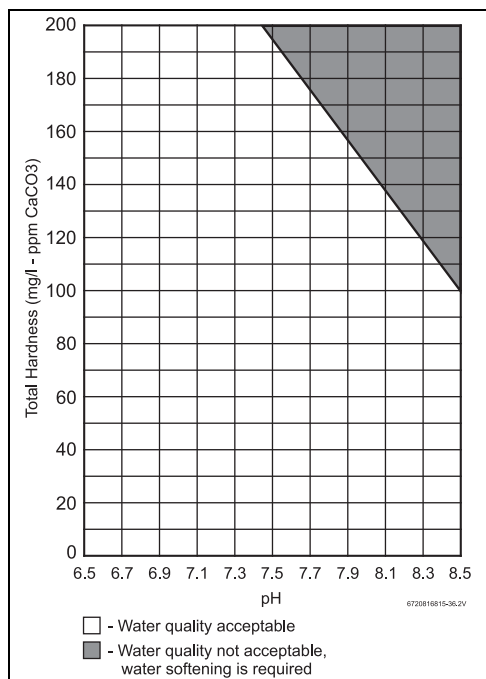

Fig. 26 Water total hardness and pH values
Water quality can have an impact on appliance longevity. Water supplied to the Greentherm T9900 SE/i must be in accordance with table 17 and fig. 26.
For water analysis data call your local water department, or if on a well, have well water analyzed periodically. Heavy scale will form if the combination of water total hardness and pH exceeds the values specified in fig. 26 (grey area), Bosch recommends consulting a local water treatment professional for water softening/conditioning options.
1. Total Hardness and pH maximum values must be evaluated in combination. Indicated maximum values will be reduced according to fig. 26.